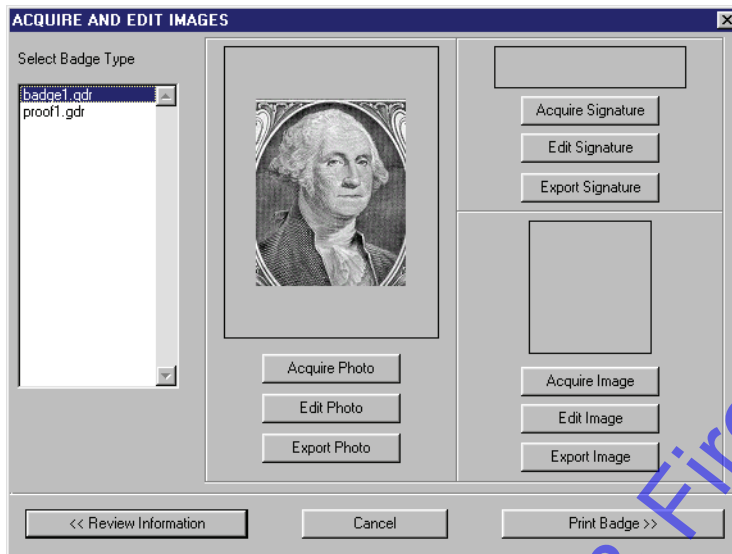

Figure 9-24 Acquire and Edit Images Window with User Photo
8. If you are satisfied with your adjustments, click on the button. The Acquire and Edit Images window appears with the user photo displayed (see Figure 9-24).
13. By default, the exported user photo file is saved in the same folder with the original user photo. If the photo file should be saved in a different folder, click the  at the right side of the “Save in” field. Navigate through the folders in the host computer’s hard disk drive until you locate the desired folder. Click on the  button. The user photo file is exported and the Acquire and Edit Images window reappears (see Figure 9-24 on page 22 of this section).